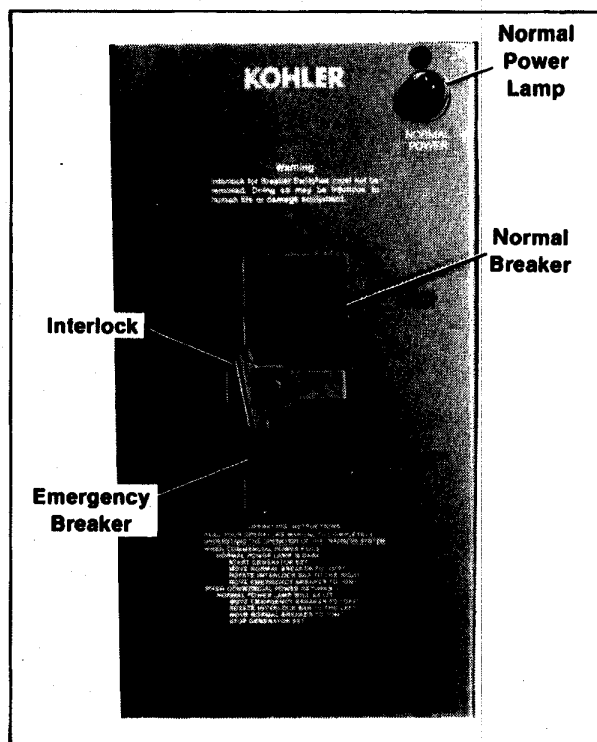

Figure 1-9. 100/60 Amp. Transfer Switch
- 3a. **100 Amp. Transfer Switch:** Push EMERGENCY circuit breaker to OFF position. Move upper portion of interlock to the left and push NORMAL circuit breaker to ON position. Normal (utility) power is now connected to your house circuits. See Figure 1-9.